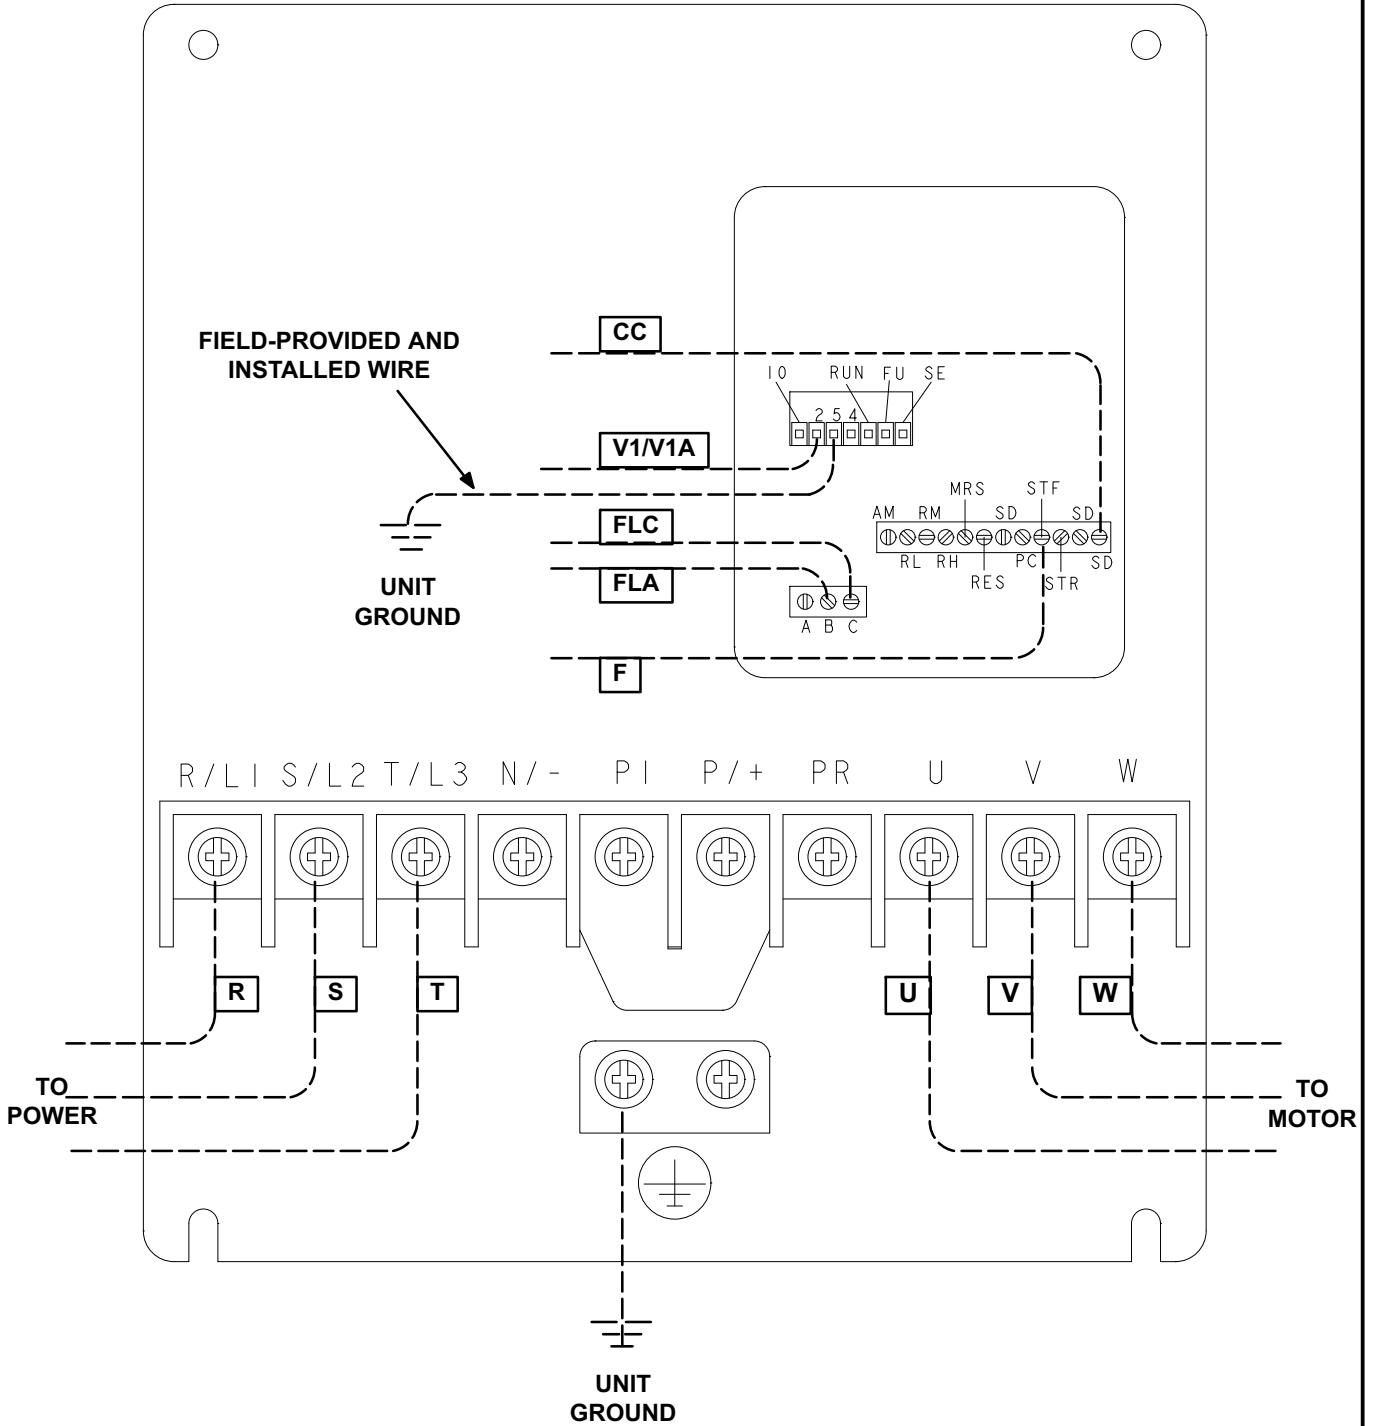

FIGURE 4
- 1- Make low voltage wiring connections using table 2 as a cross reference. See figure 4 through 8.
- 3- Make power wiring connections as shown in figures 4 through 8.